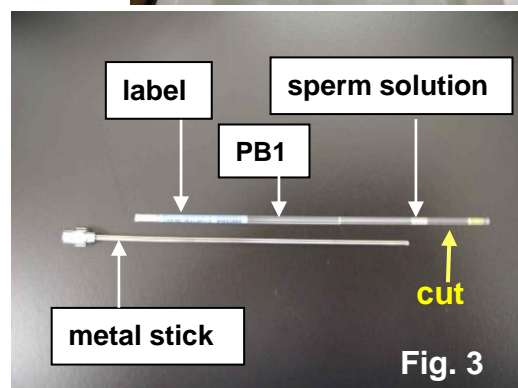

Fig. 3
- 1) Wipe the surface of the straw with a paper towel and expel the sperm solution onto the bottom of a plastic dish. The sperm solution takes up about 5 mm of the length of the straw and is enclosed in the end opposite the label. It is more opaque than the PB1 solution (Fig. 3).